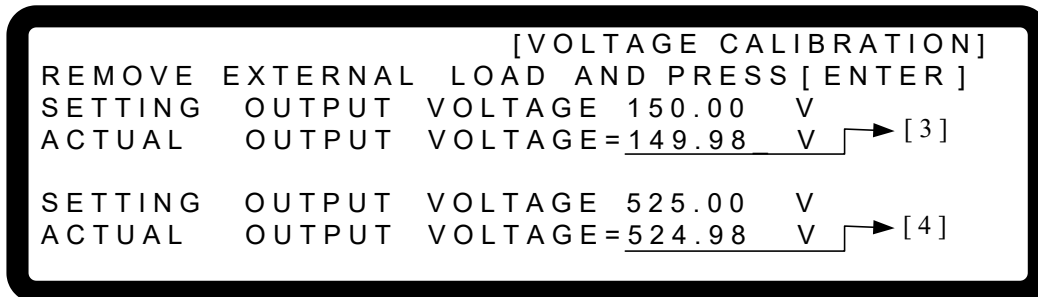

Figure 3-100
7. Press " " to do the high voltage range calibration, the instrument will output the voltage to 150.00V first and the cursor is stop at position [3] as Figure 3-100 shows. Enter the voltage measured by DVM to position [3] and press " " to confirm.
Figure 3-100 shows. Enter the voltage measured by DVM to position [4] and press “ENTER” to confirm.